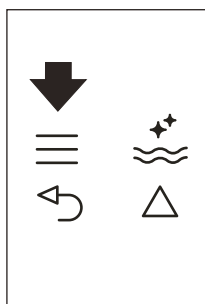
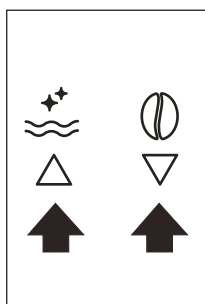

Fig. 22
Fig. 9
- Press the  icon (B2) to enter the menu (Fig. 22). Press the icons   (B7) and (B8) (Fig. 9) until "PROGRAM COFFEE" is displayed.